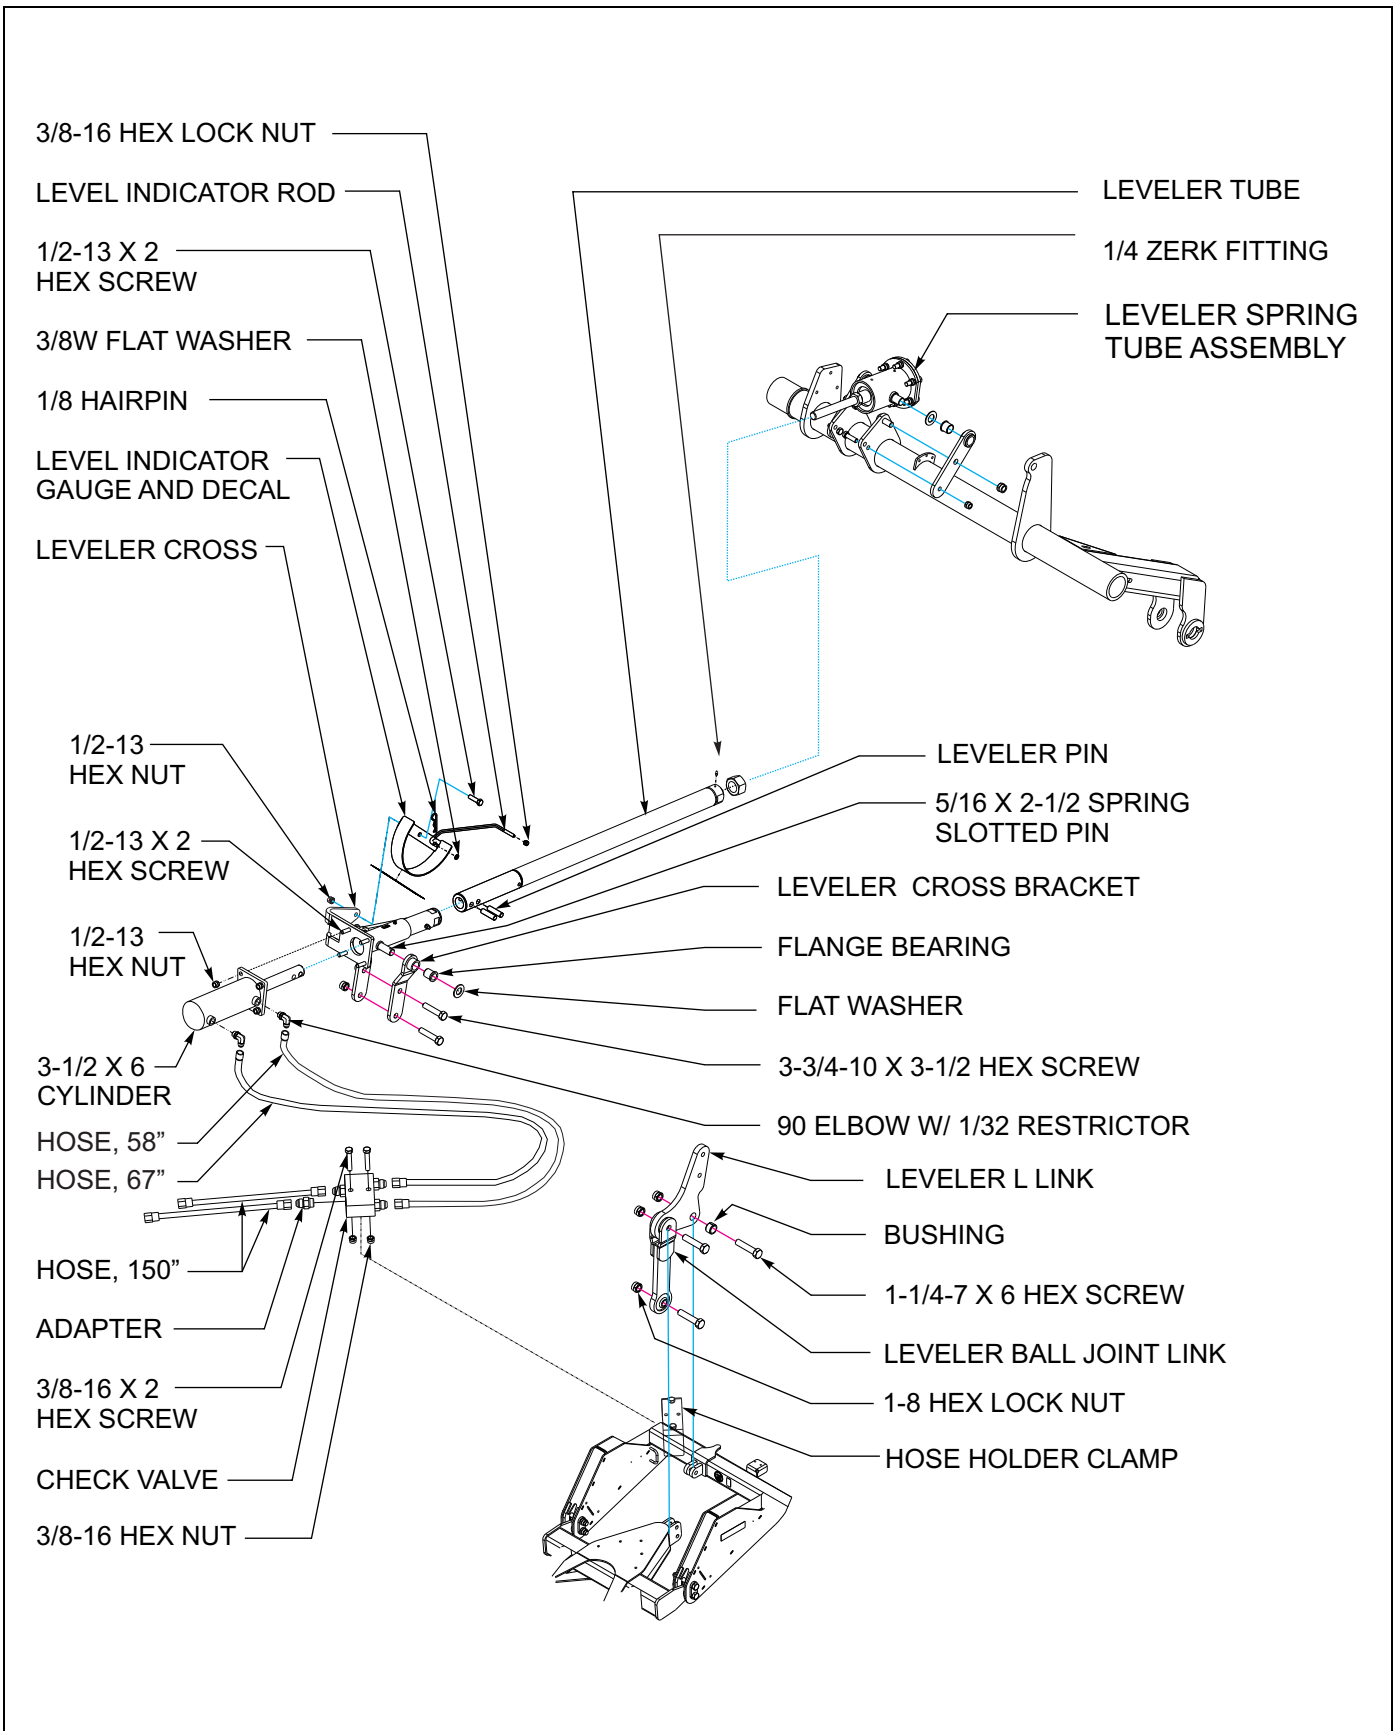

Figure 3-5: Hydraulic Leveler Installation
1. Thread a 1-1/2-6 hex nut onto the leveler screw assembly (**See Figure 3-5.**) Initially leave approximately 5" of threads visible between the 1-1/2-6 hex nut and the leveler spring nut. Further adjustment may be required.
14. Install adapters into each port of check valve (**See Figure 3-5.**)